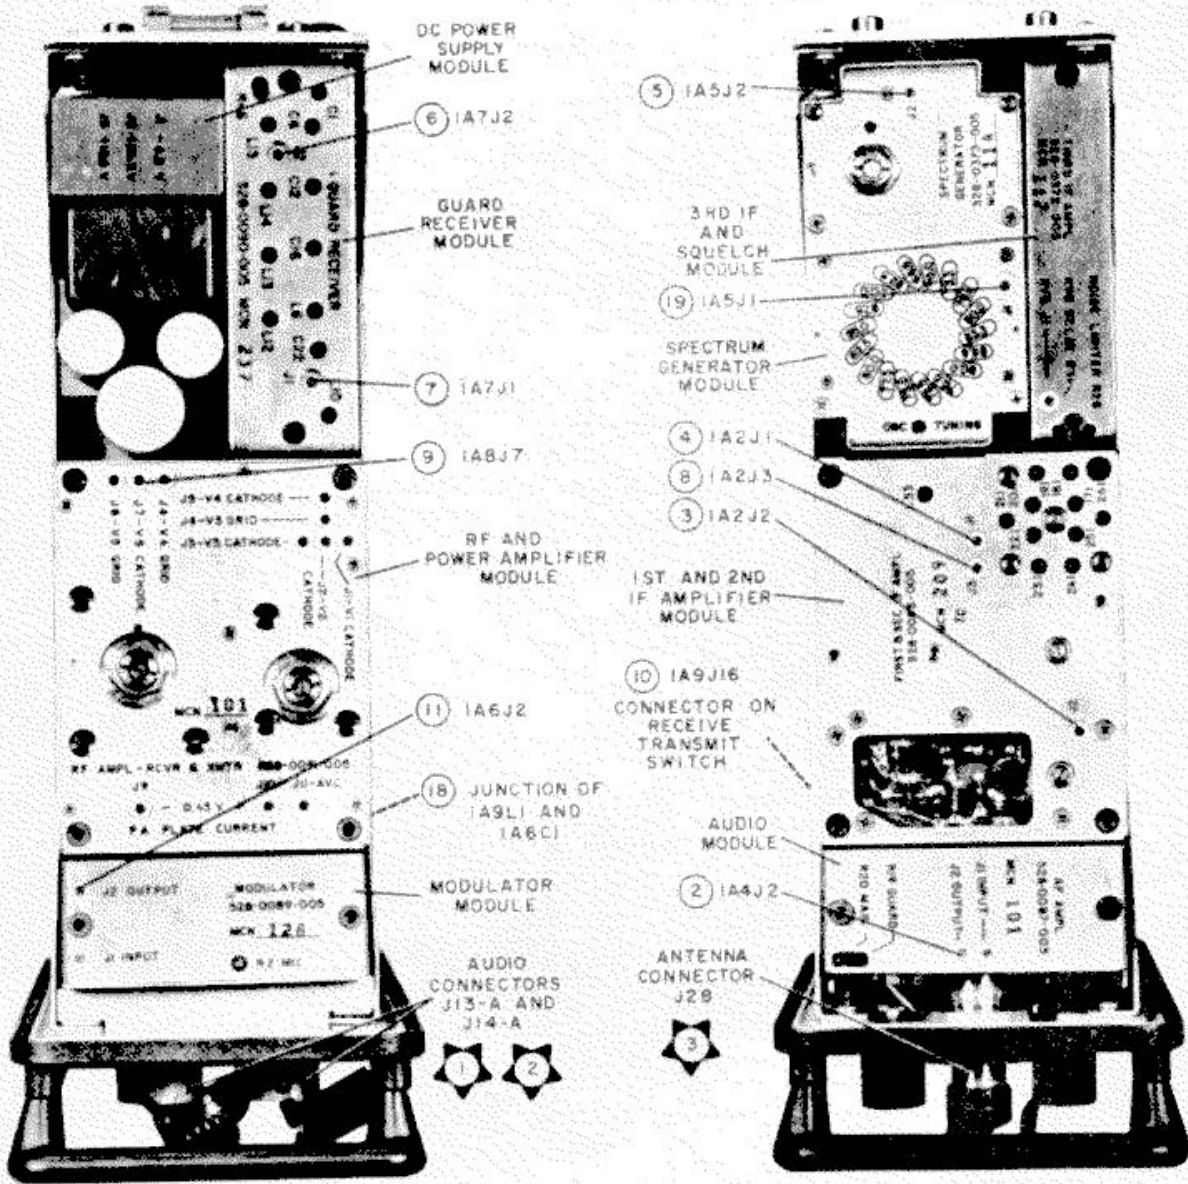

Figure 4-1. Radio Receiver-Transmitter RT-695/PRC-41, Module and Test Point Locations
a. RADIO SET AN/PRC-41. - Radio Receiver-Transmitter RT-695/PRC-41 is composed of eight plug-in modules and a main chassis. Refer to figure 4-1 for relative module location and identification. Radio Receiver-Transmitter RT-695/PRC-41 is a receiver-transmitter which provides radio telephone (A3) communication from ground to air and ground to ground. There are 1,750 channels, spaced 100 kilocycles apart in the frequency range of 225.0- to 399.9-mc, available to the operator by use of three selector knobs and a frequency indicator which are located on the front panel of the RT-695/PRC-41. A second fixed-tuned receiver is incorporated to permit monitoring of a predetermined frequency, known as the guard channel, in the 238.0 to 248.0-mc range (usually tuned to 243.0 mc). The primary power for operating Radio Receiver-Transmitter RT-695/PRC-41 may be provided by Storage Battery BB-451/U, Power Supply PP-3700/PRC-41, or by a vehicle or aircraft power source. Power Supply PP-3700/PRC-41 is used in an aircraft installation where a-c power is available, to provide the primary power for the RT-695/PRC-41. The choice of primary power source is dependent on the
b. TEST POINTS. - Significant test points are identified on the functional section service block diagram and illustrated in figure 4-1 by use of star and circle test symbols. The star test point symbol identifies and locates test points which are used to isolate trouble to a functional section. Circled test point symbols identify and locate test points which are used to isolate trouble to a circuit within the functional section. The letter and number designations in parentheses following test jack designations refer to the test jack location reference designation of figure 5-82. For example, test jack designation 1A9J28(A45) is read jack J28 located in module (or subassembly) 1A9 at coordinates A45 in figure 5-82. Unless otherwise noted, all test point voltage measurements are with respect to ground. Refer to table 4-2 and figure 4-1.